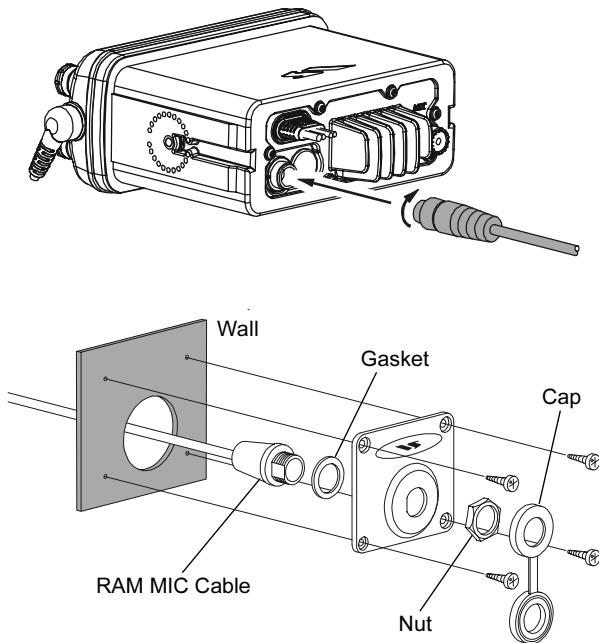

Figure 3. RAM+ MIC Installation
1. Connect the RAM+ MIC Cable to the **RAM MIC CONNECTOR** on the rear panel, then tighten the Cable Nut (See Figure 3).
2. Referring to Figure 3, make a 1.2" (30 mm) hole in the wall, then insert the RAM+ MIC Cable into this hole. Connect the Gasket and Mount Base to the RAM+ MIC Cable Connector using the Nut.